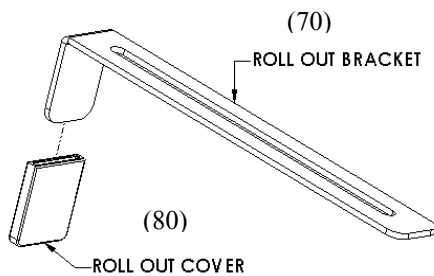

Figure 6. Install Roll Out Covers
1. Install roll out cover (80) on roll out bracket (70). See Figure 6.